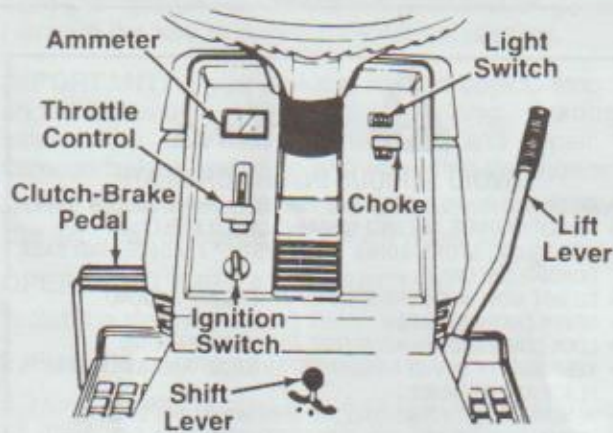

FIGURE 9
The throttle control is used to regulate the engine speed. To get maximum efficiency from cutting, the throttle should be in the FAST position when operating the mower. See figure 9.
The choke control is located on the dashboard and is operated manually. Details for the choke operation are covered in the separate engine manual packed with your unit. See figure 9.
Turn the key to the START position to start the engine. When the engine is running, leave the key in the ON position. To stop the engine, turn the key to the OFF position and remove it to prevent accidental starting. See figure 9.
The head lamps are operated by pushing the light switch located on the dashboard. The head lamps will only operate when the engine is running. See figure 9.
The ammeter registers the rate of battery charge or discharge. The ammeter will register on the discharging side with starting the engine. It should register on the opposite side (charging) when the engine is running in the fast position until the battery is completely charged. With a fully charged battery or with the engine idling, the ammeter will not show a charge. See figure 9.
The clutch-brake pedal is located on the left side of the tractor. Depressing the clutch-brake pedal part way disengages the clutch. Pressing the pedal all the way down disengages the clutch and engages the disc brake. See figure 9.
4. Set the throttle control in the FAST POSITION. See figure 9.
6. Turn the ignition key to the START position. When the engine is running, let the key return to the OFF position. See figure 9.